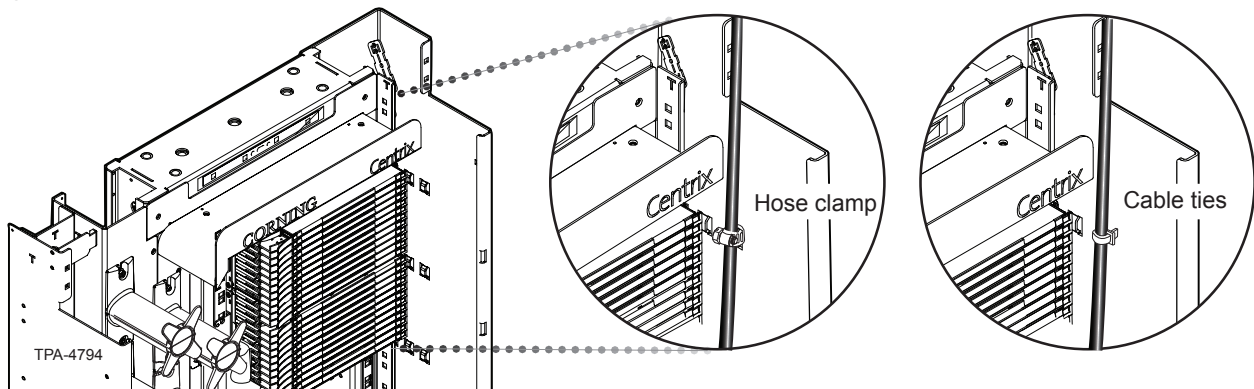

Figure 8
Step 6: As distribution cables exit the frame, organize them on the lances appropriate for the cable entry location (Figure 8).
- Step 6:** As distribution cables exit the frame, organize them on the lances appropriate for the cable entry location (Figure 8).